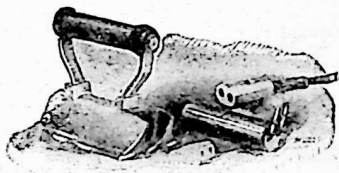

FIG. 74a. General Electric iron with heating unit removed.
**Prob. 12.** How many watts are consumed by the electric iron in Fig. 74a which uses 2.3 amp. in a 110-volt circuit?